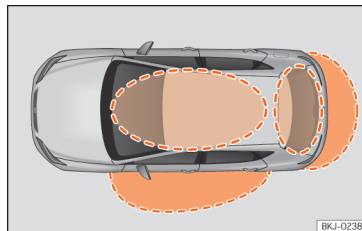
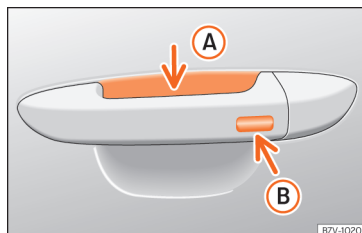

Fig. 87 Keyless Access: proximity zones.
Fig. 88 Door handle: sensor surfaces
»» **Fig. 88**
Keyless Access is a key-free locking and ignition system to unlock and lock the vehicle without actively using its key. To do this, all that is required is to have a valid vehicle key in the detection area where you are attempting to access the vehicle »» Fig. 87 and to touch one of the sensor surfaces on the door handles »» Fig. 88 »» ❶.
If a valid key is in the proximity of the car »» Fig. 87, the Keyless Access locking and starting system gives the key entry as soon as
- Grip the driver door handle. When you do this, you touch the sensor surface »» Fig. 88 ❶ (arrow) of the handle and the vehicle unlocks.
- Touch (*once*) the locking sensor surface »» Fig. 88 ❷ (arrow) on the driver's door handle. The door that is used must be closed.
- Touch (*once*) the sensor surface »» Fig. 88 ❷ (arrow) on the driver's door handle. The vehicle locks with the "Safe" security system »» page 104. The door that is used must be closed.
- Touch (twice) the sensor surface »» Fig. 88 **B** (arrow) of the driver door handle to lock the vehicle without activating the “Safe” security system »» page 104.
When the vehicle is locked, the rear lid automatically unlocks on opening if there is a valid vehicle key in the proximity »» Fig. 87.
- Push the central locking button  on the remote control and touch the locking sensor surface of the driver door handle »» Fig. 88 **B** (arrow) within the following 5 seconds. Do not grasp the door handle; otherwise the vehicle will not unlock. Deactivation is also possible if the vehicle is locked through the driver's door lock.
To close all the electric windows and the sunroof using the **comfort function**, keep a finger for a few seconds on the locking sensor surface »» Fig. 88 **B** (arrow) of the door handle until the windows and roof have closed.
The sensor surfaces on the door handles could engage if hit with a water jet or high pressure steam if there is a valid vehicle key in the proximity. If at least one of the electric windows is open and the sensor surface »» Fig. 88 **B** (arrow) on one of the handles is activated continuously, all windows will close.